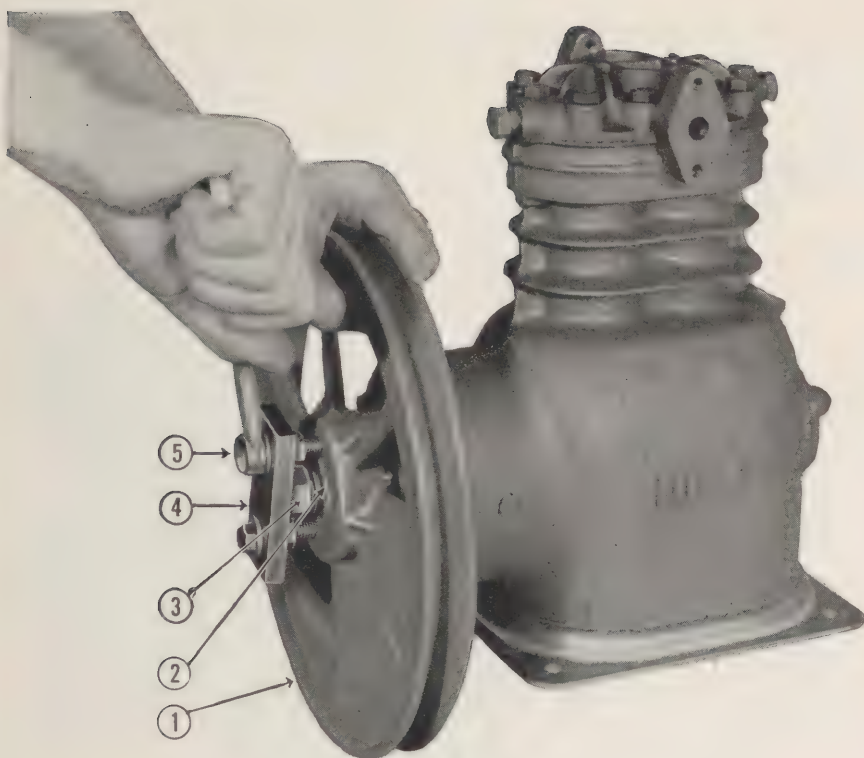

Figure 45. Removing the compressor flywheel.
- (1) Remove the compressor. (See par 57 a.)
- (2) Install the flywheel puller, TR00041, on the flywheel over shaft nut (fig 45, item 4).
- (3) Tighten wheel puller bolts alternately with a wrench, TR01931 (fig 45, item 5), until flywheel snaps against the nut.
- (4) Remove the flywheel puller, shaft nut, lockwasher and flywheel.